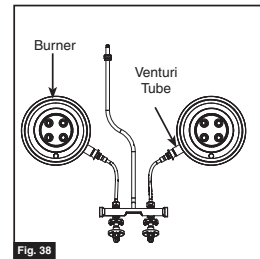

Fig. 38
8. Make sure the orifice fittings are inside the venturi tubes, then tighten all self tapping screws. (Fig. 38)